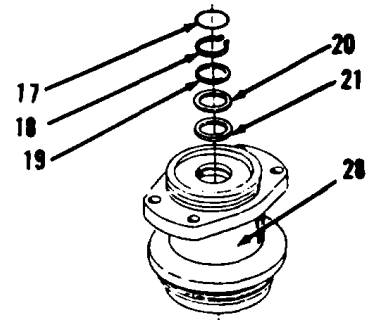
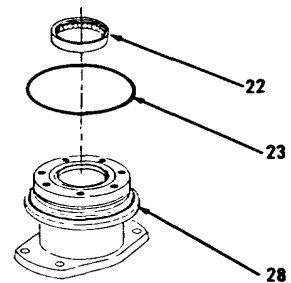

Figure 10-61.
Figure 10-62.
9. Remove seal (17) from housing (28, Figure 10-61). Discard seal (17).
10. Using retaining ring pliers, remove retaining ring (18).
11. Remove spacer (19), washer (20) and seal (21). Discard seal (21).
12. Remove bearing (22) and preformed packing (23) from housing (28, Figure 10-62). Discard preformed packing (23).